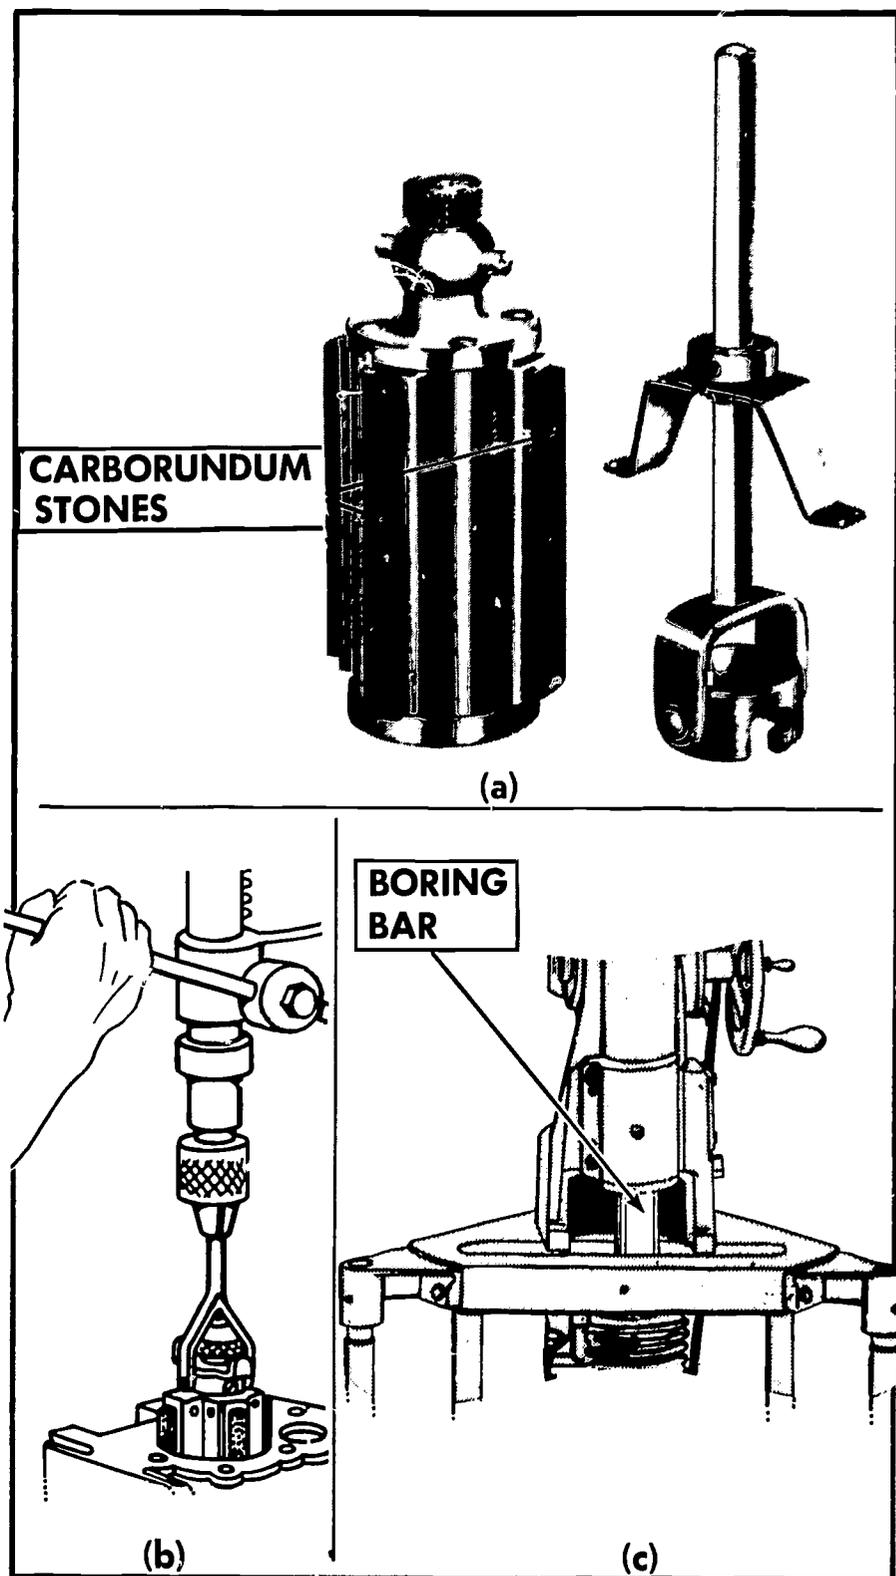

FIGURE 274. Two methods for reboring cylinders are as follows: (a and b) hone with carborundum stones, and (c) boring bar with a cutting tool.
2. Select the proper boring tools (Figure 274).